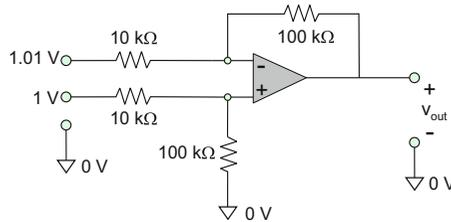

Fig. 5.30. Difference amplifier for Example 5.10.
**Example 5.10:** Find the output voltage of the amplifier circuits shown in Fig. 5.30 below. Assume the ideal amplifier and exact resistance values.
**Solution:** We check Eq. (5.52d) first and conclude that the circuit in Fig. 5.30 is a true difference amplifier: it rejects the common-mode voltage. The differential voltage to the amplifier is  $-0.01$  V. Using Eq. (5.53) gives us an output voltage of  $v_{out} = -0.1$  V. If the resistance ratios were not equal to each other, a common-mode signal would be present at the output. In that case, the complete amplifier equation (5.52e) should to be used.
The initial guess is probably to use the difference amplifier from Fig. 5.30. For this amplifier,  $R_1 = R_3 = 10 \text{ k}\Omega$ ,  $R_2 = R_4 = 100 \text{ k}\Omega$ . However, we encounter two problems. The first one is that the amplifier should not perturb the sensor operation. In other words, the amplifier's input resistance must be large compared to any of the resistances in the Wheatstone bridge. The *differential-mode input resistance* to the amplifier in Fig. 5.30 is  $R_{in} = 2R_1 = 2R_3$  (check problem 5.82 at the end of this chapter). Therefore, we may wish to increase  $R_1 = R_3$  by a factor of 10, i.e., choose  $R_1 = R_3 = 100 \text{ k}\Omega$ . The second problem is the amplifier gain. An overall gain of 1000 is required in Eq. (5.53) in order to obtain appreciable output voltages on the order of  $\pm 2 \text{ V}$ . This gain is too high; prohibitively large resistor values  $R_2 = R_4 = 100 \text{ M}\Omega$  would be needed in Fig. 5.30.